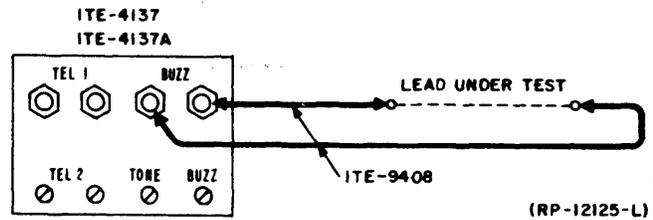

Fig. 2A - Short Lead Test (Par. 5.04)
5.04 Plug the power cord into a convenient 60 cycle 115 volt outlet and prepare the set, using a suitable test setup from those illustrated in Figure 2A, 2B and 2C.